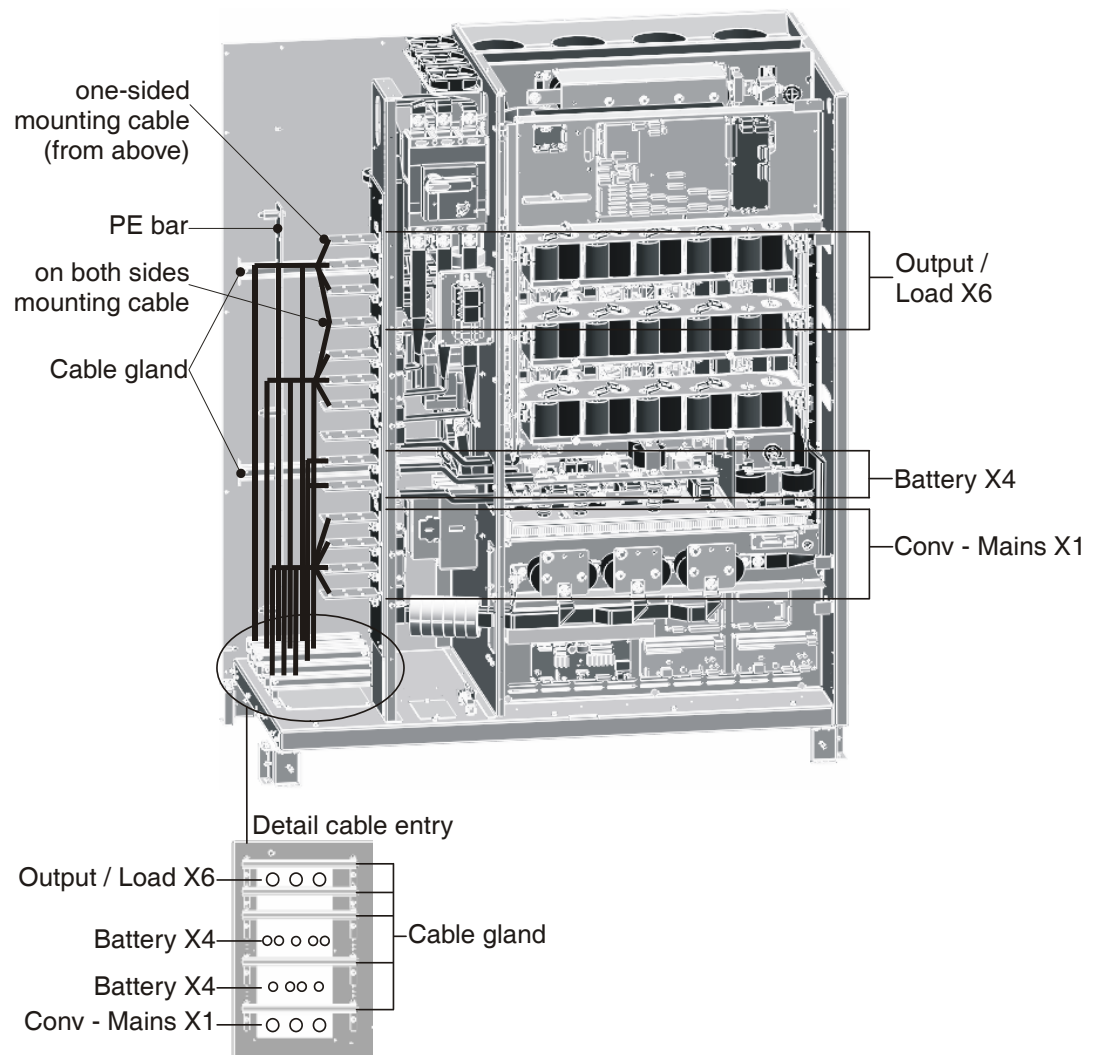

Fig. 6-11 Cable installation in the cable compartment with cable entry from below, AC 300 – 400 kVA, illustrated on the AC 300 kVA
The installation sequence depends on the arrangement of the connecting terminals. We recommend that the installation procedure described in the following steps be followed. In this case the cable routing in the floor panel is effected from the rear to the front and the termination panel connected up from top to bottom. During installation pay particular attention to the illustrations in Fig. 6-11 and the notes underneath this figure.
1. The load connecting cable (X6) is installed in the first step. For this, a cable supporting rail should be mounted right at the back above the cable entry on the floor panel. The load cables are laid and secured alongside each other on this rail. As Fig. 6-11 shows, the load terminals are located in the upper area of the termination panel. When connecting the load cables to the connecting terminals, the two supporting rails in the rear of the cable compartment can be used to attach the cables. The connections at terminals X6.1 (L1), X6.2 (L2), X6.3 (L3) and X6.N (N) are made to the connecting bars from above using cable lugs. The protective conductor should be connected to the PE busbar at the left-hand side panel.
3. The connecting cables for the converter infeed (Mains 1, X1) are connected in the final step. To support the infeed cables, an additional supporting rail must be mounted immediately in front of the battery cables on the floor panel. The infeed cables are laid and supported alongside each other on this rail. Connection to terminals X1.1 (L1), X1.2 (L2), X1.3 (L3) and X1.N (N) are made to the connecting bars from above, using cable lugs. The protective conductor should be connected to the PE busbar on the left-hand side panel.